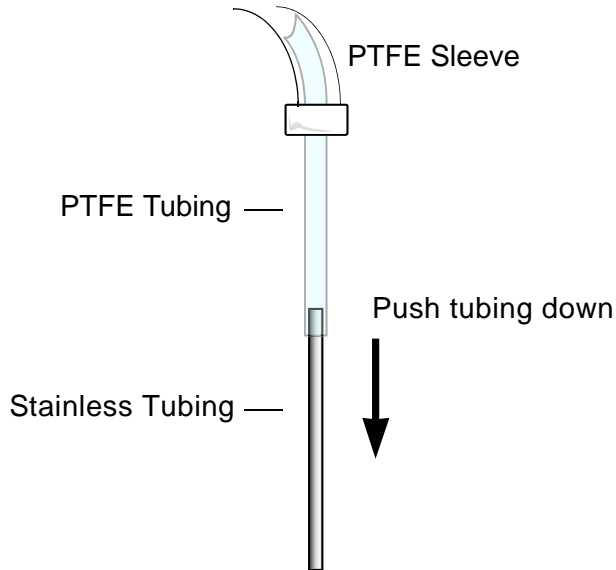

Figure 5-9. PTFE Tubing Installation
- Carefully, without developing kinks in the tubing, push the PTFE tubing end downward, over the top of the stainless tubing, as shown in Figure 5-9.